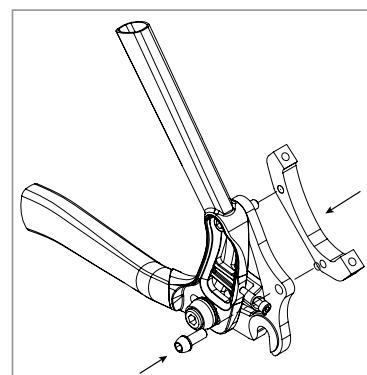

Figure 2
2. Mount your disc brake adapter using the same upper pivot bolt and 1 of the 2 bolts supplied with the brake adapter. Apply thread locking compound to both bolts. Secure the lower adapter bolt to the brake according to manufacturer's specification. Tighten the upper pivot bolt just enough to complete brake caliper installation. You will fully tighten it later after dropout adjustment is completed (FIG 2).